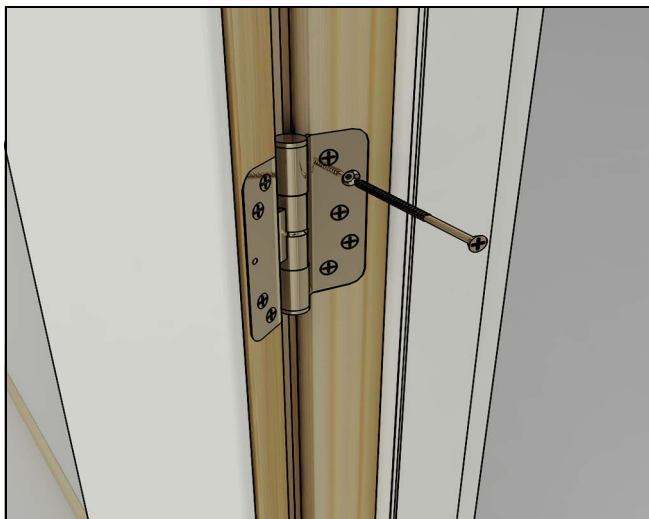
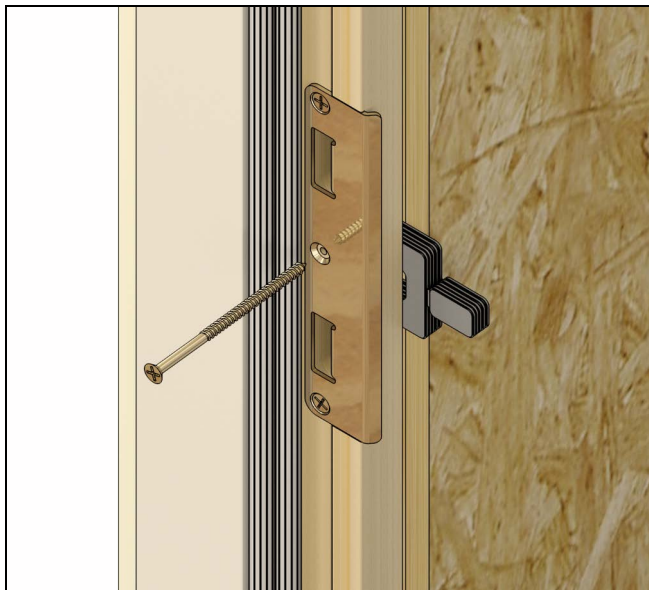
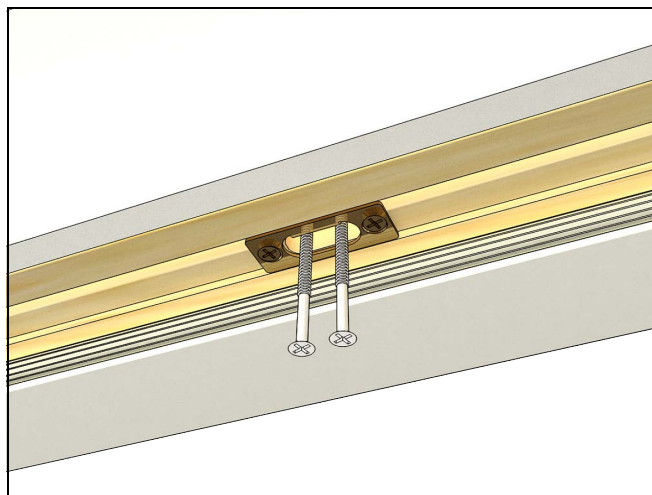

Figure 21 Adjustable hinge
Figure 22
Figure 23
1. On all operating panels that hinge off of a jamb., install a provided #10 x 2 1/2" screw as shown in Figure 21 and Figure 22. The 2-1/2" screw will always be put in the 2nd screw hole from the top. On IZ3 units, two #10 x 2-1/2" screws are needed in the center holes.
2. On all side jamb and head jamb strike plates, remove and replace the screws fastening the strike to the frame with the longer screws and drive into the rough opening frame as shown in Figure 22 and Figure 23. Screws will stay intact on the head jamb strike plate and two #10 installation screws as shown in Figure 23.